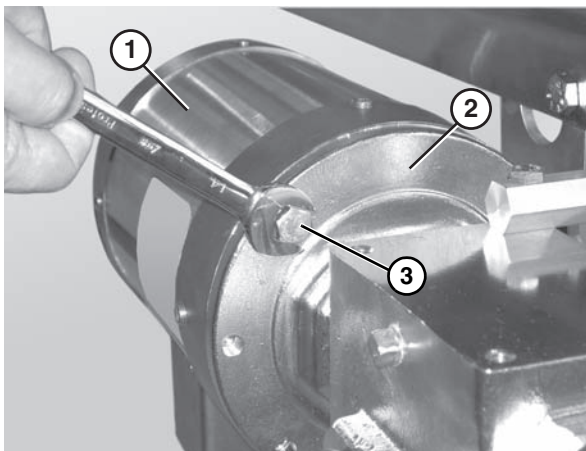

Figure 53
1. Remove the bolts that connect the motor to the drive assembly (**Figure 53, item 3**).
2. Remove the motor (**Figure 53, item 1**) from the drive assembly (**Figure 53, item 2**).